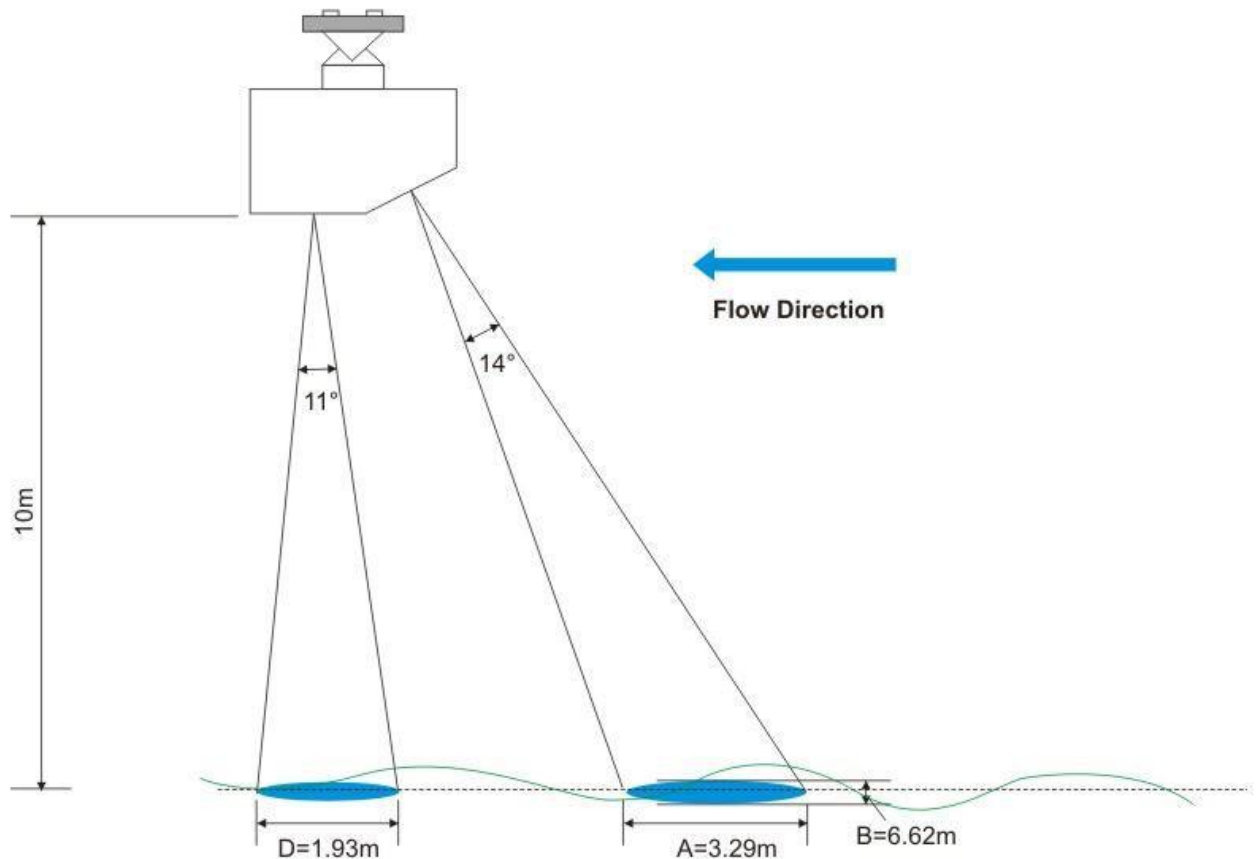

Figure 1.1 Installation of 10-meter radar level meter and a radar velocimeter antenna irradiation area
The flow meter integrates a radar level meter and a radar velocimeter. The radar antenna beam angle of the radar level meter is $11^{\circ} \times 11^{\circ}$, and the antenna beam angle of the radar velocimeter is $14^{\circ} \times 32^{\circ}$. When the level meter illuminates the water surface, the irradiation area is similar A circle, when the velocimeter illuminates the water surface, the illuminated area is similar to an elliptical area, as shown in Figure 1.1. Accurately understanding the illumination range of radar waves helps to choose a suitable place to install and avoid some scenes that are easily disturbed, such as rivers on both sides of the river, like the branches swinging in the wind.
The boundary of the water surface area illuminated by the radar is proportional to the installation height. Table 1.2 shows the parameter values of A, B, and D when the beam of the radar level meter and the radar velocimeter illuminates the water surface when the installation height is 1 meter (see Figure 1.1 for the meanings of A, B, and D). , the actual installation height (unit meter) multiplied by the following value is the actual corresponding parameter
- 5) The beam of the current meter is recommended to face the direction of the incoming water, as shown in Figure 1.1, and the horizontal angle to the direction of the water flow is 0 degrees.